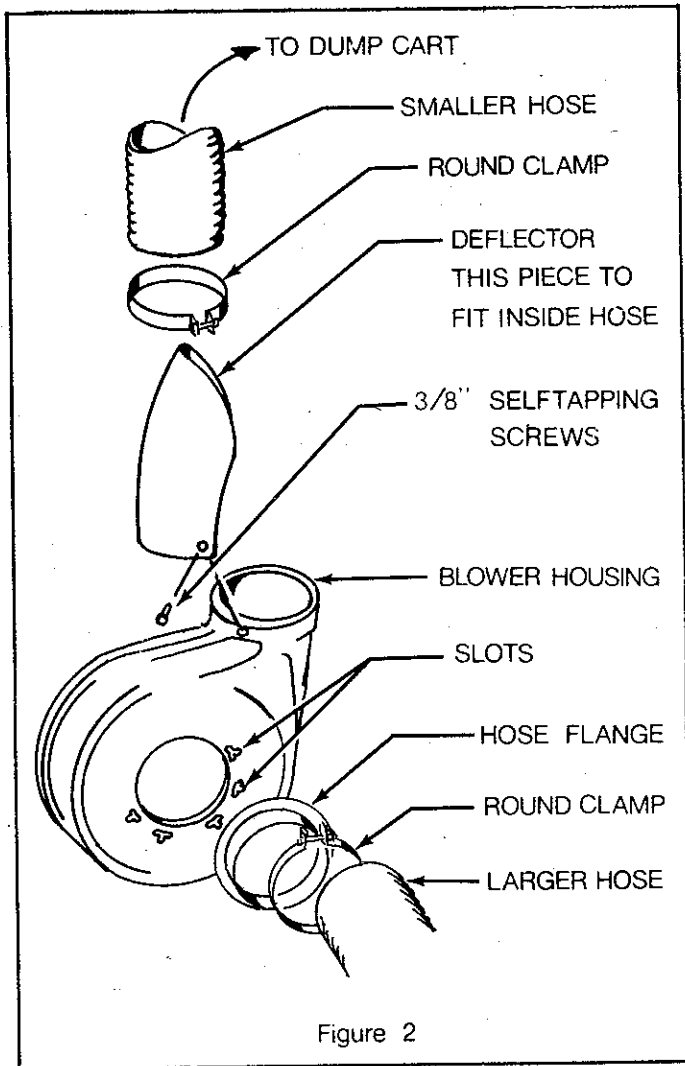

Figure 2
2. Attach the deflector to the top of the blower housing with two 3/8" self tapping screws (Figure 2).
3. Place 6" diameter hose over deflector and blower assembly and secure with a hose clamp using one 1/4-20 x 3" machine screw, lockwasher and hex nut (Figure 2).
5. Slide hose flange into blower housing slots (Figure 2).
1. Install the hose flange and a hose clamp on the plain end of the hose. Secure with one 1/4-20 x 3" machine screw, lockwasher and hex nut (Figure 2).
3. Attach the flanged end of the roving nozzle to the blower housing, seating the flange fully in the slots (Figure 2).